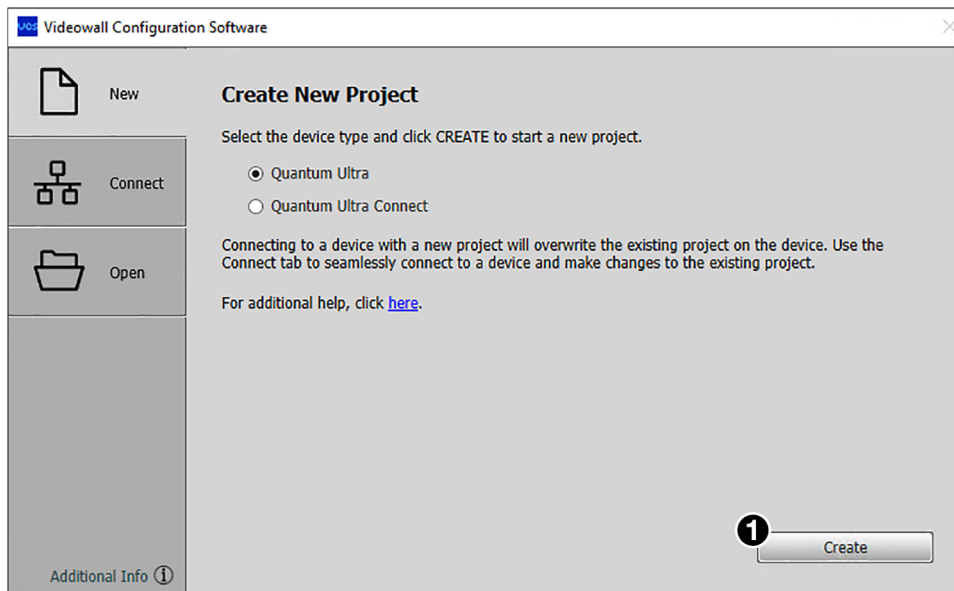
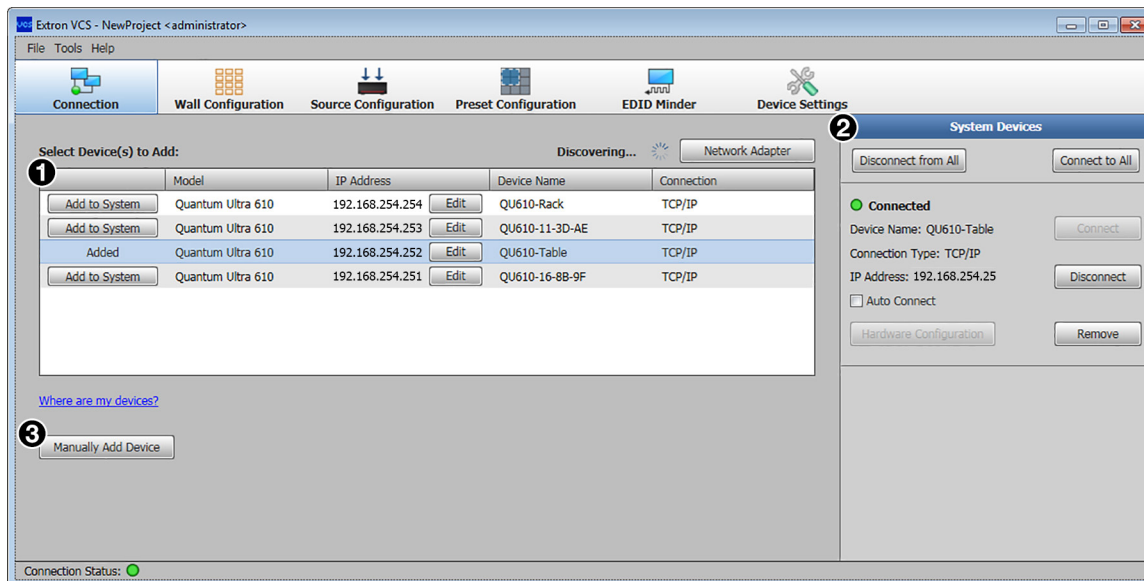

Figure 5. VCS Start Screen, Create New Project Tab
Figure 6. Connection Screen
2. Open the software program either by double-clicking the **VCS** icon (shown at right) that is placed on your desktop during installation, or by clicking **Start > Extron Electronics > Videowall Configuration Software**. The Extron VCS program opens with the Start screen, Create New Project tab (see figure 5 on the next page) and a list of devices supported by the current version of VCS.
3. Select the radio button for your device and click the **Create** button (see figure 5, ①). VCS searches for Quantum Ultra Series devices that are on the network. The Connect to Device screen is displayed. The Select Device(s) to Add panel (see figure 6, ①, on the next page) displays all detected devices of the type selected on the Create New Project screen.
4. Locate your Quantum Ultra Series device on the device list and click the **Add to System** button at the left of the device name. If a project already exists on the selected device, a prompt opens, asking if you want to apply your new project to the device (deleting the previous project). Click **OK** to continue creating the project (or **Cancel** to stop the procedure). Connection information is displayed in the System Devices panel. If the computer is successfully connected to the device, the word Connected is displayed, preceded by a green dot, in the System Devices panel (see figure 6, ②).
- Click the **Manually Add Device** button (see figure 6, ❸ on the previous page). The Manually Add Device window opens (shown at right).
- In the **IP Address** field, enter the address of the Quantum Ultra Series device to be connected and select the **Pull from Hardware** radio button (see ❶ in the image at right).
- Click **Add**. The connection information for the device is displayed in the System Devices panel (see figure 6, ❷ on the previous page). A unit added by this method is **not** displayed in the Select Device(s) to Add panel.
Click the **Add to System** button in front of the Quantum Ultra Expansion line (②) to add the expansion chain to the System Devices panel (see figure 6, ② on page 6).
- On the New Project connection screen, click the **Manually Add Device** button (see figure 6, ③ on page 6).
- On the Manually Add Device window, click the **Manually Add Expansion Device** button (see ① in the image at right). Ignore the other fields.
- On the Manually Configure Expansion screen, enter the IP addresses of the devices in the expansion. Be sure to enter the addresses in the order the devices are connected in the chain, with the primary device address in the top (first) field (see ① in the image at right).